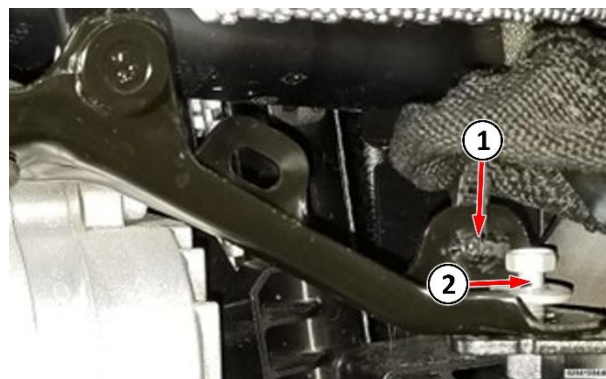

Figure A6 – Electrical Connectors
20. Remove the bracket bolt (Figure A6).
21. remove the air cleaner bracket (Figure A6).